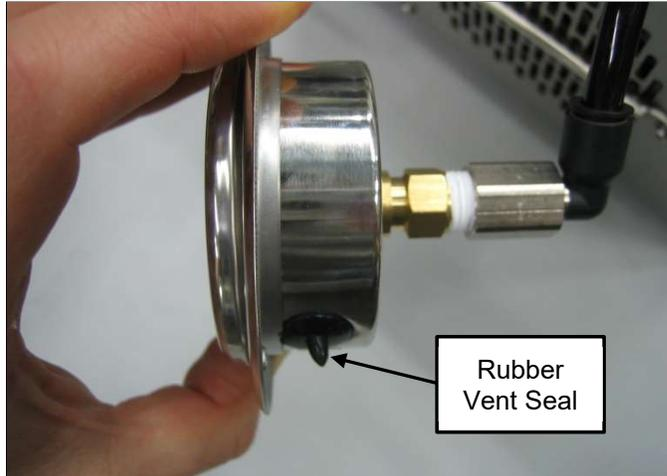

Figure 5 Pressure Gauge Shown Removed
3. Gently pull the gauge out of the unit. Take care not to damage the rubber plug on the top of the gauge body (see Figure 5)